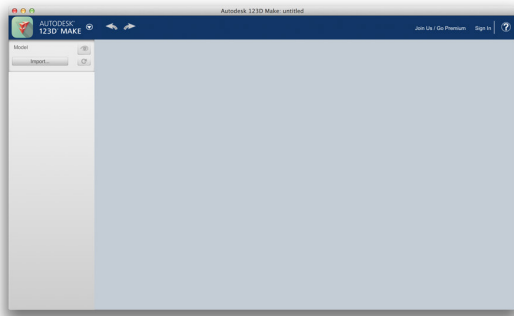

Figure 5-2 The 123D Make workspace
3. Now you are in the app's main workspace (Figure 5-2): a blank screen, with a drop-down menu and tools for importing 3D models to the upper left, and a sign-in button at the upper right. Go ahead and sign in; this should be your first step when using any 123D program.